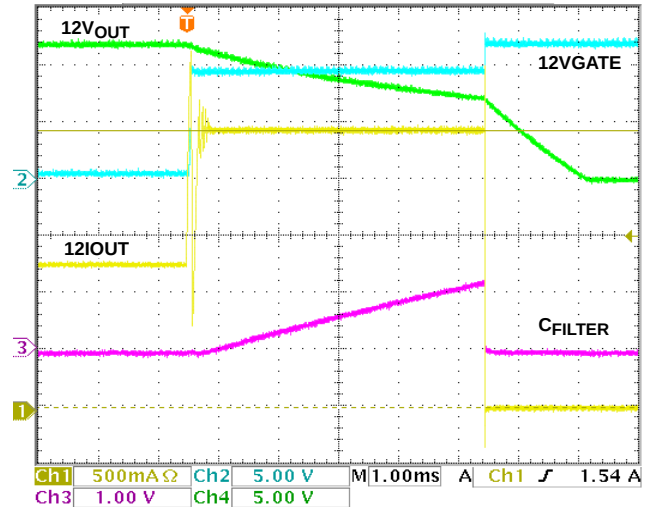
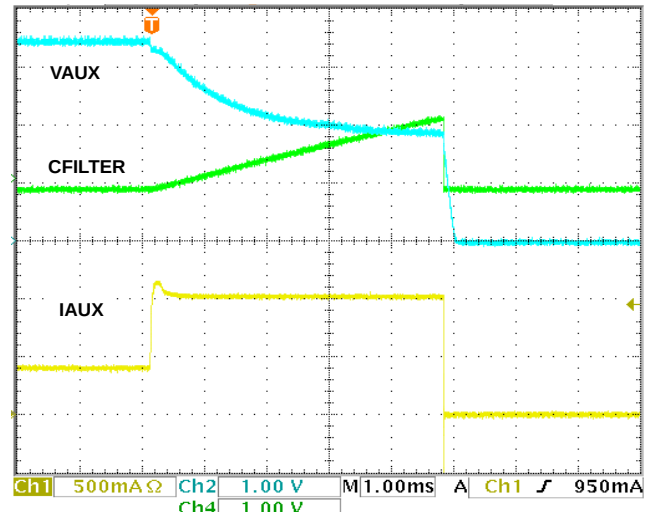

FIGURE 12. ISL6113 12VMAIN CR AND SHUTDOWN
FIGURE 16. VAUX OC REGULATION AND SHUTDOWN
The ISL6113, ISL6114 provides a current limiting function that protects the input voltage supplies against excessive current loads, including short circuits during turn-on (MAIN supplies shown in previous Figures 3 through 11) and during static operation for both MAIN (Figures 12 through 15) and AUX supplies (Figures 16 and 17). When during static operation, any load current causes $>V_{THLIMIT}$ (nominally 50mV) drop across a sense resistor thus exceeding the programmed CR limit, the
The VAUX outputs have a different circuit-breaker function. The VAUX circuit breakers do not incorporate a fast-trip detector, instead they regulate the current into a fault to avoid exceeding their operating current limit. The circuit breaker will trip due to an overcurrent on VAUX when the programmable CR duration timer, t_{FLT} expires. This use of the t_{FLT} timer prevents the circuit breaker from tripping prematurely due to brief current transients. See Figures 16 and 17 for illustrations of the VAUX protection performance into an over current (OC) and more severe OC condition respectively. The ISL6113, ISL6114 AUX current control responds proportionally to the severity of the OC condition resulting in appropriately fast VAUX pull down and current regulation until t_{FILTER} has expired.